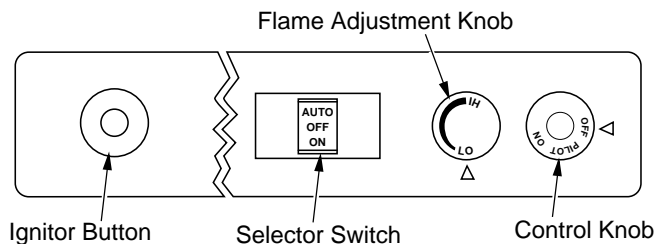

Figure 22 - Control Knob and Ignitor Button Location (Shown as Supplied, No Control Options)
- Wait five (5) minutes to clear out any gas. Then smell for gas, including near the floor. If you smell gas, STOP! Follow "B" in the safety information, column 1. If you don't smell gas, go to the next step.
- Press in and turn control knob counterclockwise  to the PILOT position. Press in control knob for five (5) seconds (see Figure 22).